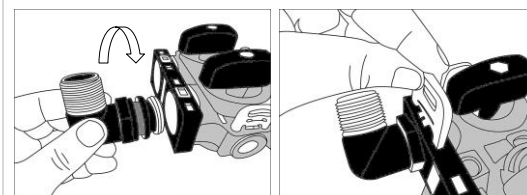

Fig 3
- Note:** To change the connection fitting, simply remove the locking clips by hand and pull the fitting out. Insert new fitting and reinstall locking clip (fig 3).